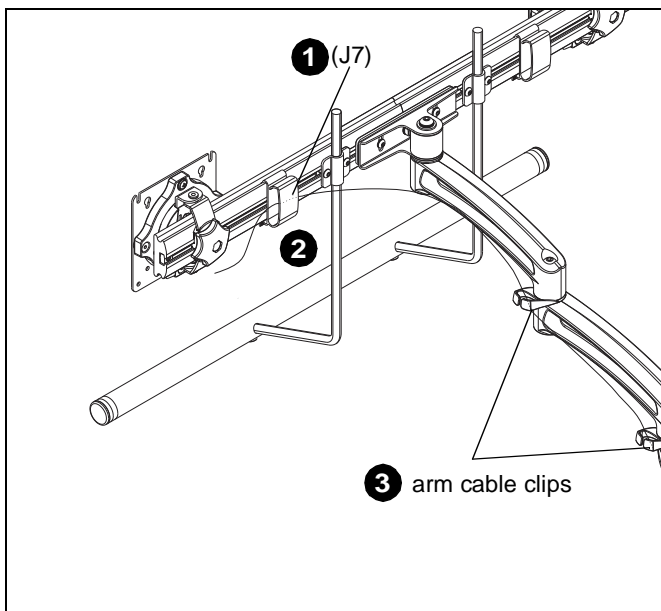

Figure 28
1. Install cable clips (J7) to back of array. (See Figure 28)
2. Route cables through cable clips (J7) as desired. (See Figure 28)